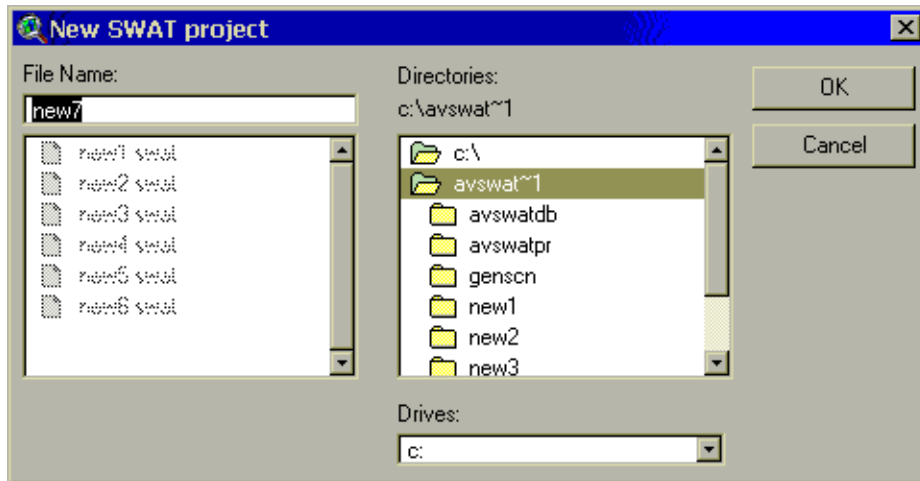

Figure 4.3
2. A browser will be displayed requesting a name for the new project (Figure 4.3). The browser shows the directory tree where the data associated with the new project will be stored. The interface will default the project directory location to the *Installation dir* directory. The default project name and directory location may be used or a new name/directory entered.